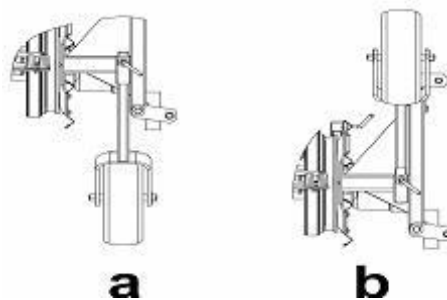

Figure 2
- Every time you take off with the rake attached to the tractor, put the support leg of the rake to the transport position (Figure 2 b).